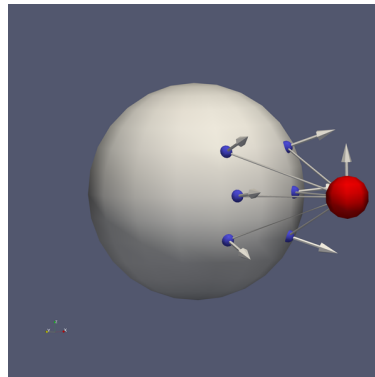

Figure 5: Scene intersections and their normals
**Normals** Each LiDAR point stores the normal of the surface that it intersected. A scan of a sphere is shown in Figure 5 to demonstrate this. The normal vector coming from the scanner (red sphere) is the "up" direction of the scanner.